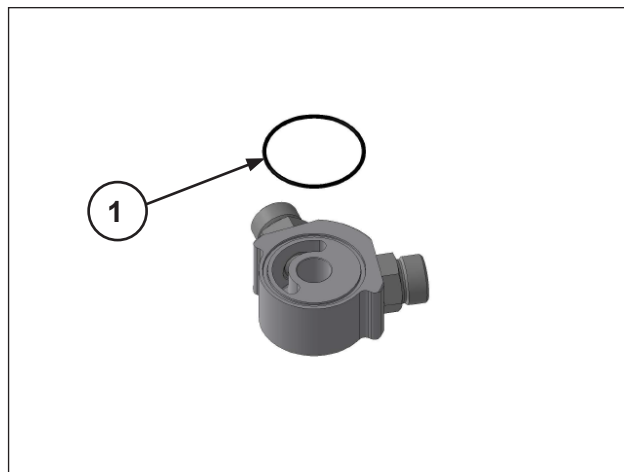

Fig. 129
Insert the O-ring into the seat of the oil air exchanger adapter (pos. ①, Fig. 129) making sure it is correctly positioned.